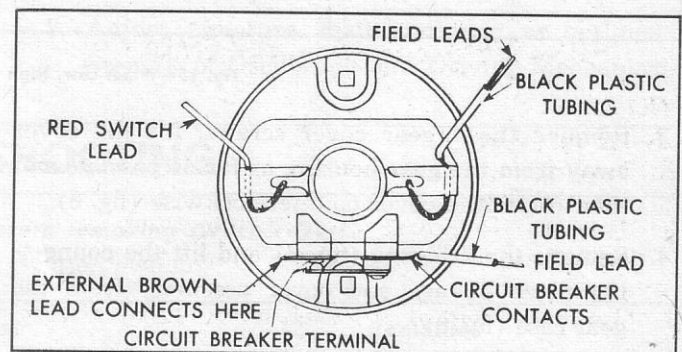

Fig. 14—Motor Case Electrical Connections
- b. Place a hot soldering iron against brush lead connection on brush holders, remove old brushes, and install new brushes. Check connections with diagram in Figure 14.
8. Reassemble the motor by reversing the above procedures. If leads were disconnected to separate case from gear housing, resolder connections according to Figure 14.